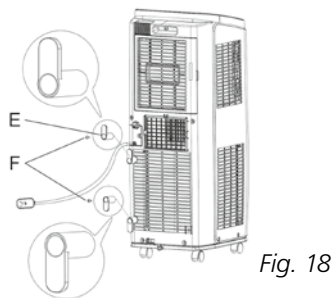

Fig. 18
- 1 Fit the supplied cable clips E with the screws F (see fig. 1) to the rear of the air conditioner (see fig 18).